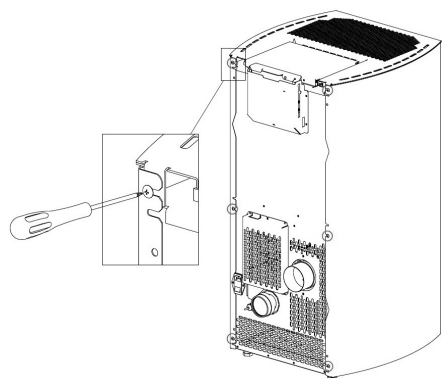

Fig. 55 - Loosen screws
- Loosen the 6 back screws (see **Fig. 55**).